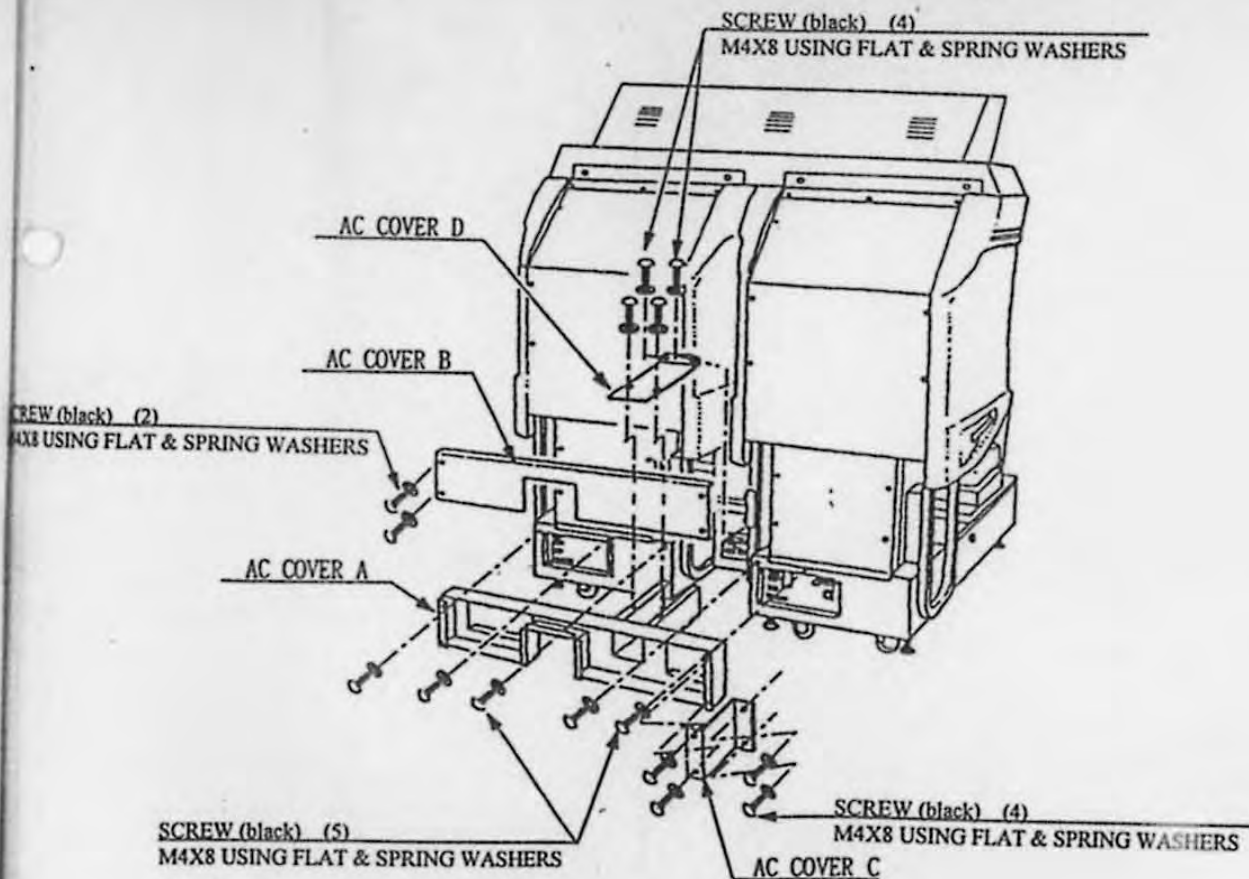

FIG. 6.9
- ① Attach AC COVER A to the back of the cabinet (Fig. 6.9) by securing with 5 screws.
- ② Make the wiring connections between both cabinets & the coin chute tower. Insert the 1P cabinet's wire harness plugs into the sockets on the coin tower closest to the 1P cabinet & vice versa for the 2P cabinet.